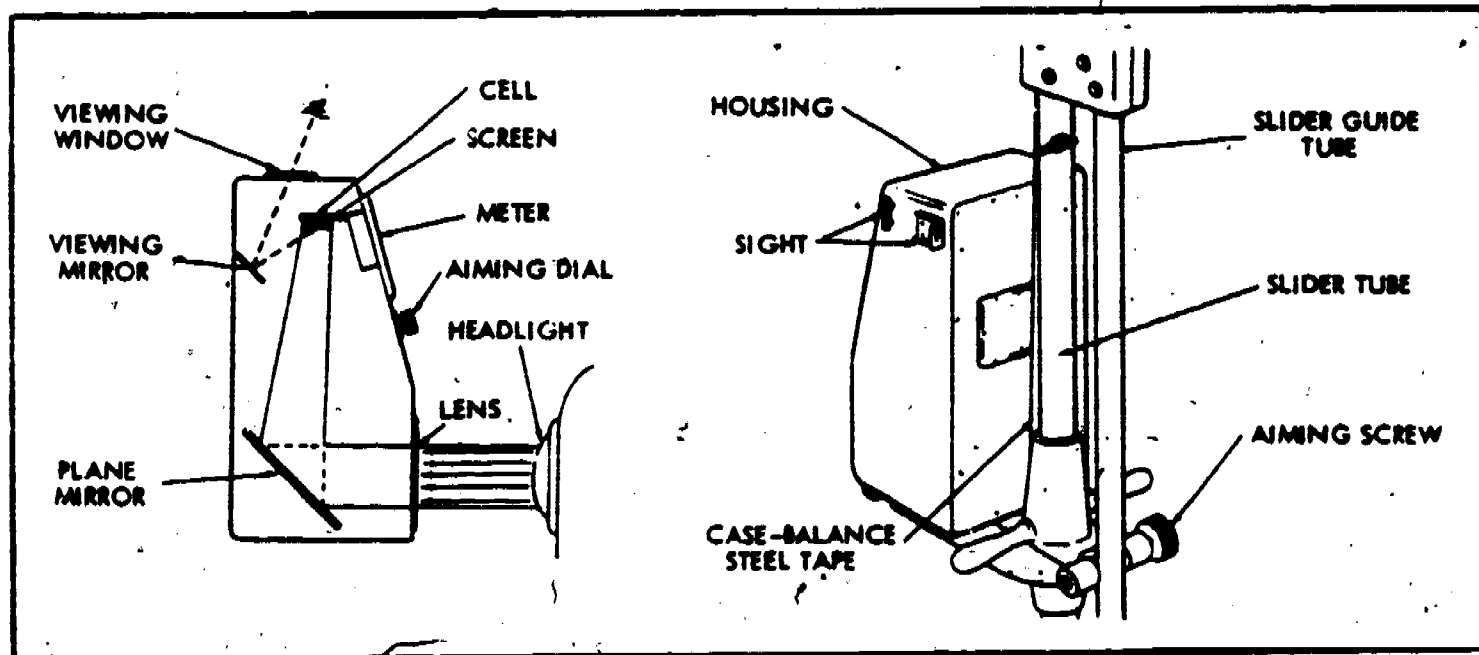
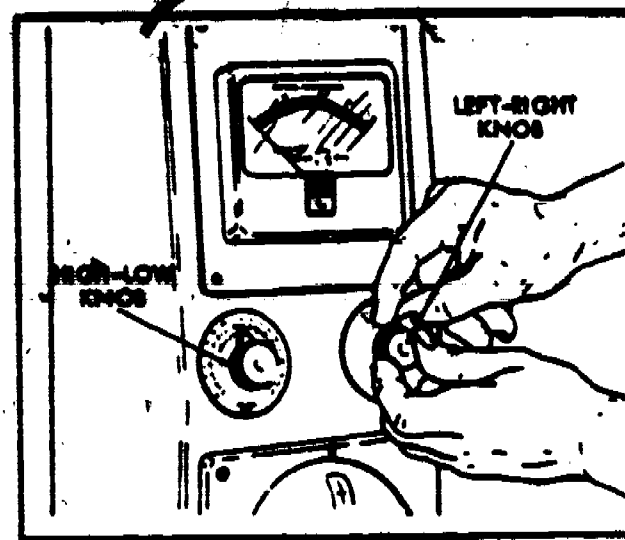

Figure 15. Operating Parts of Tester.
Figure 17. Resetting High-Low Tester Knob.
f. Look down through the viewing window of the tester, figure 15, at the image of the flashlight beam as seen in the viewing mirror, figure 16. Turn the high-low and/or left-right knobs, figure 17, at the front of the tester until this beam image is well centered in the large circle also seen in the mirror.
g. After centering the image, grasp the high-low knob firmly in one hand and, without turning the knob, turn the pointer to place it at "0" on the dial, figure 17. Recheck to make sure that the beam image is still properly centered.
Note: Be careful not to disturb the left-right knob, or the position of the tester while making this adjustment. When the adjustment is made, the fore-to-aft axis of the plane mirror, figure 15, is lined up with the plane of the floor on which the vehicle stands during a following headlight test.
(4) Rotate the aiming screw, figure 15, to place the line formed by the front part of the sight on the centerline, so that the centerline is straight through both parts of the sight.
(6) Operate the high-low and left-right knobs, figure 17, until the meter indicates maximum candlepower.
Note: The plane mirror, figure 15, is now in perfect alignment with the headlight beam. Test results may be read on the meter and calibrated dials at the front of the tester case.
(1) Set the high-low and left-right knobs, figure 17, to show the amount of drop and side angle desired.
(2) Adjust the headlight reflector until a maximum candlepower reading is shown on the tester meter, if required.